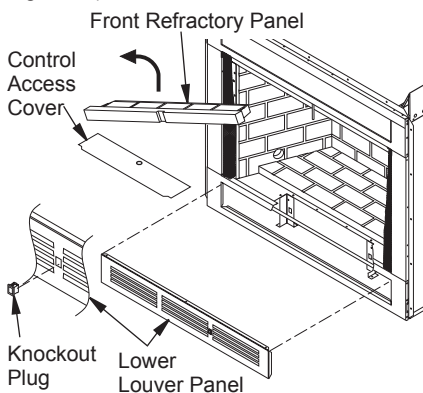

Figure 11 - Accessing Blower Compartment (Controls Not Shown for Clarity)
On 32" models only, the blower must be installed by removing the lower face panel and placing blower into its proper mounting position. The 36" and 42" models can use this method or remove the bottom front refractory brick liner and access panel to allow installation through the firebox bottom (see Figure 11).
Accessibility to the bottom on 36" and 42" models only, can also be gained through the access panel underneath the bottom front refractory brick liner. Lift the bottom front refractory brick liner up and out of the firebox floor, exposing the rectangular shaped access panel (see Figure 11, page 13). The sides and back refractory brick liner pieces do not have to be removed. Lift access panel out by using finger holes. Blower accessory BK or BK3 can now be installed.
- Remove knockout plug from louver panel by pressing top and bottom retaining clips (see Figure 11, page 13).